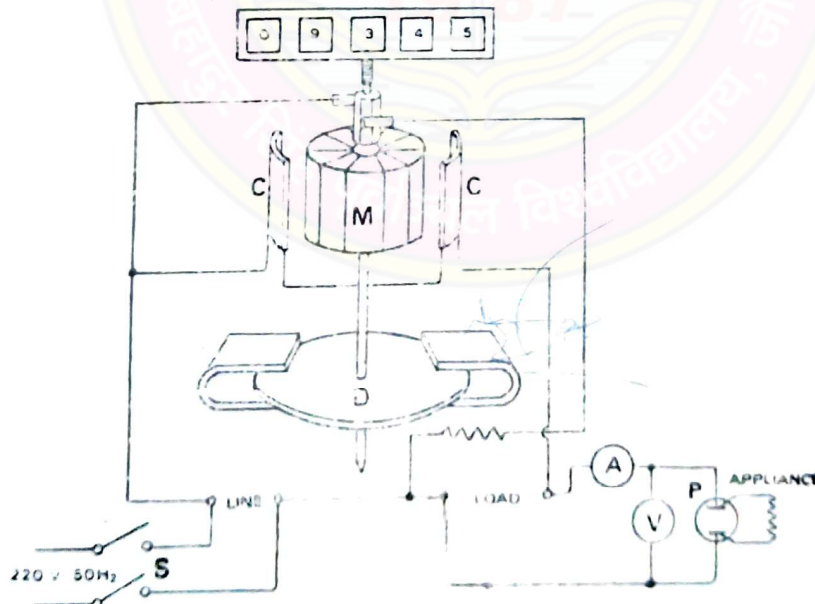

FIG.1
- (1) There are four wires leading from the base of the meter. Two wires are for the input A.C. and two for the load. Check the circuit before the connection of the main supply- Better consult your teacher in the lab before you connect the meter to the power line. The appliance, the ammeter and voltmeter are connected as shown in the circuit. Fig. 1. If a wattmeter is available then connect it to measure power consumed by inductive loads. Remember voltmeter and Ammeter donot measure power factor.